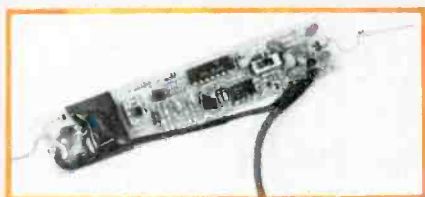

Figure 3.
**Figure 3.** Diode waveshapes vary according to polarity and TR-1 sensitivity. Left, with 10V/division sensitivity, this angle was produced by a power-supply diode with anode connected to red test lead and cathode connected to the black test lead. The scope is dc coupled, so zero voltage and current are at the center intersection of lines. Right, with 1V/division sensitivity, the waveshape moved to the left and became a broader angle. Positive voltage is on the left; therefore, current did not flow until the peak voltage was about +0.7Vdc. If the diode had been connected with red to cathode and black to anode, the waveshape would have been the same, but it would have appeared in the lower-left quadrant of the CRT screen. Some components have a more distinctive waveshape on high sensitivity; others should be tested on low sensitivity.
- To eliminate interference, the scope ground shield wire needs to be cut as close to the tip as possible (Figure 3). Use heat-shrink tubing on the exposed shield wire.